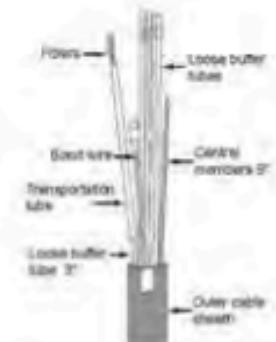

Figure 5
- 7 Carefully ring cut and remove all but three inches of each buffer tube. Clean the remaining buffer tubes, exposed fibers, strength member, and 6" of the cable sheath with a cloth and commercially approved cleaning solution. (Figure 5)